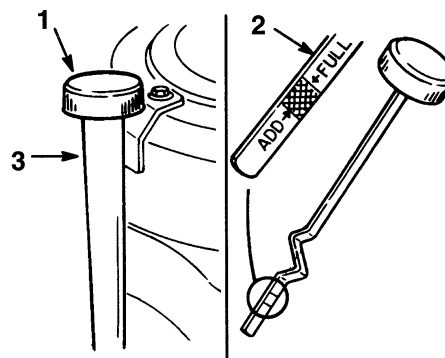

Figure 18
3. Clean around the oil dipstick (Fig. 18) so dirt cannot fall into the filler hole and damage the engine.
4. Unscrew the oil dipstick and wipe the metal end clean (Fig. 18).
5. Slide the oil dipstick fully into the filler tube, do not thread onto tube (Fig. 18). Pull the dipstick out and look at the metal end. If oil level is low, slowly pour only enough oil into the filler tube to raise the level to the "FULL" mark.
7. Slowly pour approximately 80% of the specified amount of oil into the filler tube (Fig. 18). Now check the oil level; refer to Checking Oil Level, page 20. Slowly add additional oil to bring to "FULL" mark on dipstick.